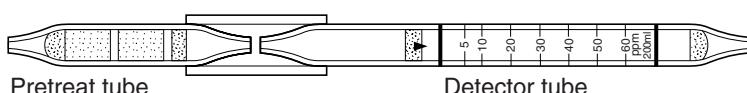

FIG.2.4 CONNECTION WITH PRETREAT TUBE
(1) pretreat tubes filled with an eliminating reagent or dehumidifying reagent for eliminating interfering gases or moisture in the sample, and (2) pretreat tubes filled with an oxidizing reagent for breaking down the sample gas before it enters the detector tube. For example : when a trichloroethylene detector tube is used, trichloroethylene is broken down in the pretreat tube to generate chlorine gas ; the chlorine gas is passed through and detected by the chlorine-detecting reagent in the detector tube. The tube's scale graduations are calibrated by trichloroethylene in parts per million (ppm). All pretreat tubes are connected to their detector tubes as shown in FIG.2.4.